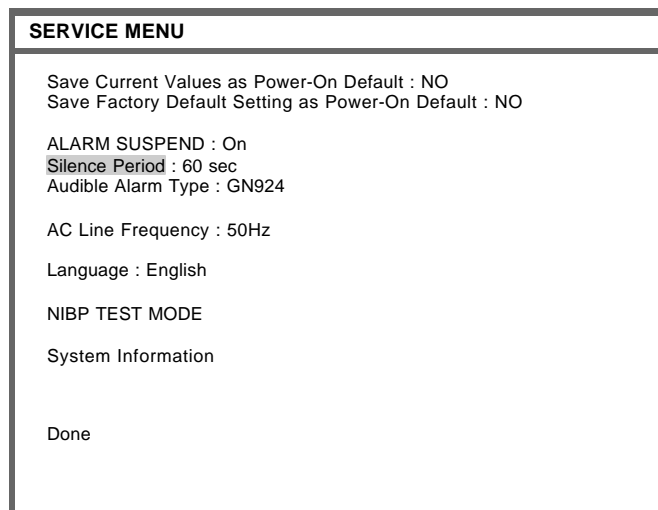

Figure 6. Service Menu
The purpose of the Service menu (Figure 6, Table 9) is to allow the authorized user to create a Power-on default for each setting in the N5500. Power on defaults are the settings in effect each time the N5500 is powered on. Once the Service menu is entered, physiological monitoring is terminated. The screen layouts do not display any information associated with normal monitoring operation. Use the following procedure to configure the Service Menu for the N5500 monitor (also see **Using the Monitor** section, page 35 of the operator's manual):
8. The Service Menu will now be present. The available Service Menu items are explained in Figure 6 and Table 9. Make changes to these menu items as desired by rotating and pressing the knob.